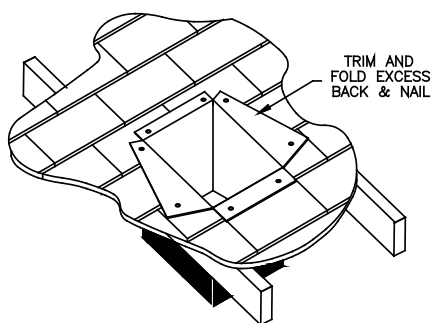

Figure 32
7. If the Support Box protrudes the roofline use tin snips to cut from the top corners down to the roof line, and fold the resulting flap over the roof sheathing (**Figure 32**). Before nailing it to the roof, run a bead of non-hardening sealant around the outside top edges of the Support Box so as to make a seal between the box and the roof. Clean out any combustible material or debris from inside the Support Box.
9. Connect the necessary amount of Pipe Sections to reach the stove and extend at least 12-inches above the roof before attaching Termination Cap (**Figure 32**).